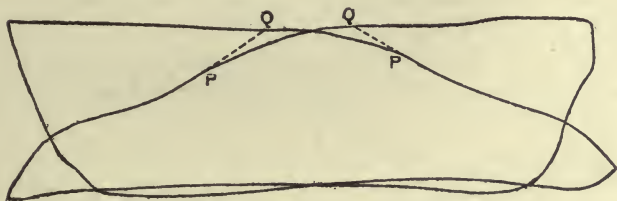

FIG. 30.—PAIR OF INDICATOR CARDS
• "The card which I have shown you is, of course, for only one end of the cylinder; the card from the other end will be of the same general shape, and the pair will look like Fig. 30":